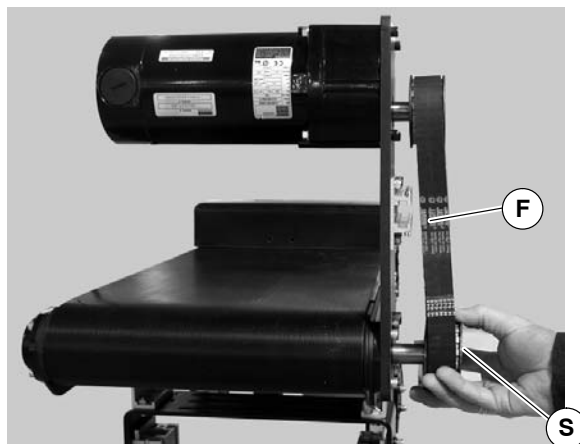

Figure 11
3. Remove timing belt (F of Figure 11).